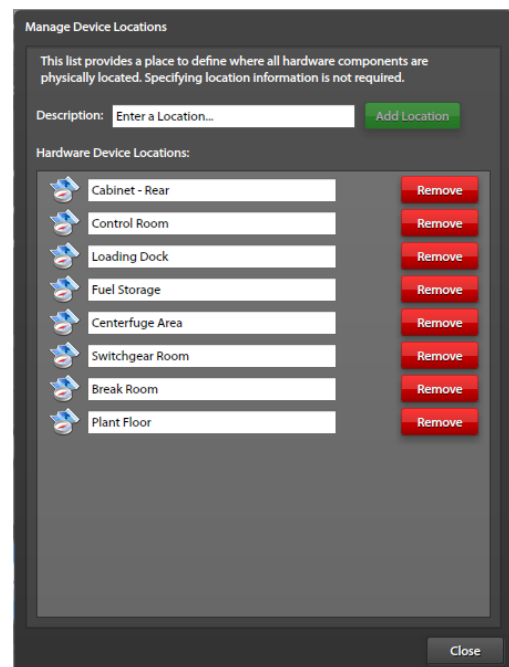

Figure 14. Manage Device Locations
1. Click the **EDIT LOCATIONS** button on the **SYSTEM PROPERTIES** screen to open the **MANAGE DEVICE LOCATIONS** screen (see Figure 14).